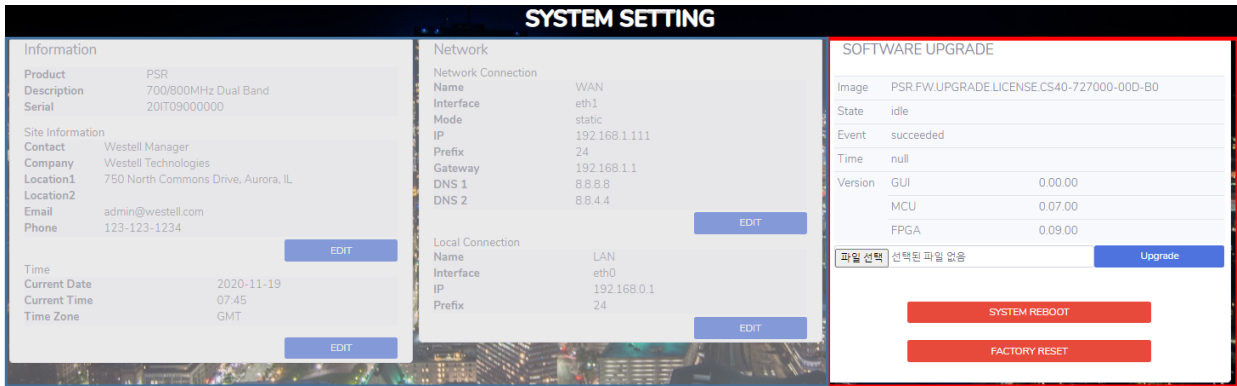

Figure 7-1: System Firmware Upgrade Progress
- 2) System Upgrade progress window, Figure 7-1, displays.